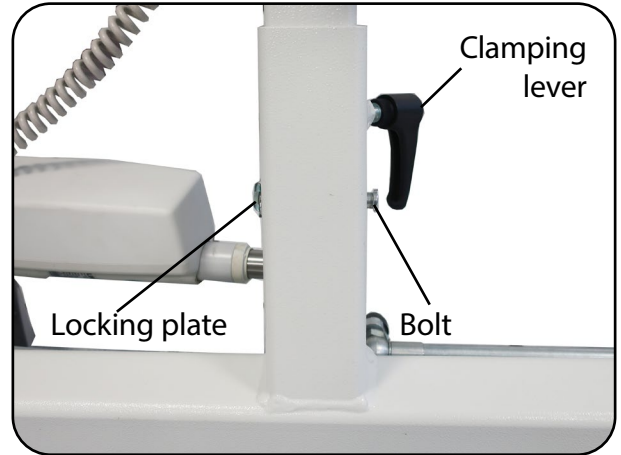

Fig. 6.2.04 - Secure stand mast
6. Raise the stand mast slightly and line up the hole in the chassis with the hole in the stand mast. Secure the mast by inserting the bolt (Fig. 6.2.04).
8. Tighten the clamping lever to fix the stand mast (Fig. 6.2.04).